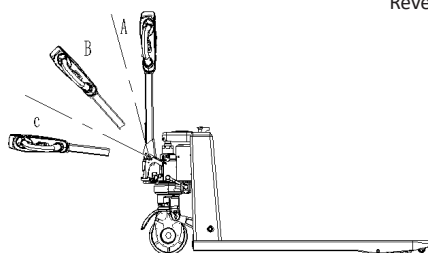

Fig. 9
1. Rotate the handle to the traveling section. (Fig. 9)
- Turn the handle to A or C quickly for emergency braking (Fig. 9). The brake will lock the wheel and the unit will stop moving.